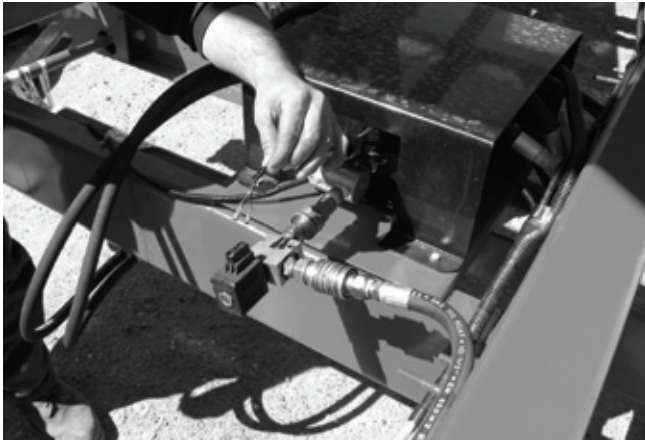

Figure 9
- 5) If your tractor is equipped with a closed center hydraulic system, the conversion kit P-6890CF must be installed. A plug-in solenoid valve is provided as an option and must be connected to the hydraulic circuit and to the electric circuit. (Figure 9). **Note:** If the tractor's hydraulics are load sensing, this option is not required.